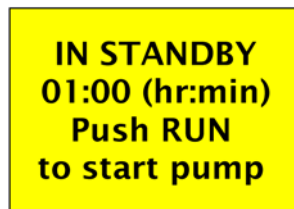

Figure 64. IN STANDBY Popup Message.
- When standby is activated, the IN STANDBY popup message, (See Figure 64.), is displayed in a flashing format.